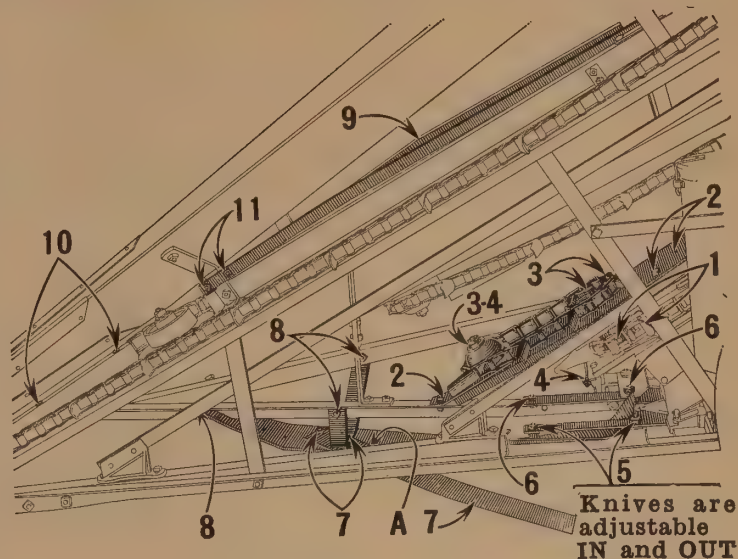

Fig. 58
1. (Fig. 58.) Attach butt chain idler sprocket with stud and roller bearing **at same time** placing butt chain in position—use roller bearing removed from regular butt chain idler.
2. (Fig. 58.) Attach special butt chain board, upper. Board takes same bolts as were removed from regular board —Also stripper rod and knuckle shield on rear end of board.
3. (Fig. 58.) Loosen bolt holding extension butt chain idler sprocket; set extension chain drive sprocket in position **at same time** attaching butt drive chain with **flat side of lug next to corn**.
4. (Fig. 58.) Tighten all nuts and adjust tension of butt drive chains. Do not run too tight.
5. (Fig. 58.) Place special L. H. side knife in position, **at same time** attaching corn butt guide with filler block **between** corn butt guide and L. H. gatherer angle. Insert **front** bolt from **underside**.
6. (Fig. 58.) Attach special R. H. side knife.
7. (Fig. 58.) Assemble knife, shoe and shoe hanger bracket. Knife must set **against** lip of shoe at “A”—**Beveled side of knife down**.
8. (Fig. 58.) Bolt knife assembly to R. H. gatherer angles as shown. **Slot** in front of shoe fits **over** gatherer angle. **Tighten bolts securely**.
9. (Fig. 58.) Remove R. H. gatherer chain guide board, upper, and replace with wide board. Transfer chain guide stripper from narrow to wide board.
10. (Fig. 58.) Bolt lower throat spring to **underside** of L. H. gatherer chain board.
11. (Fig. 58.) Secure upper throat spring to L. H. lower gatherer top board bracket with **U-bolt**.